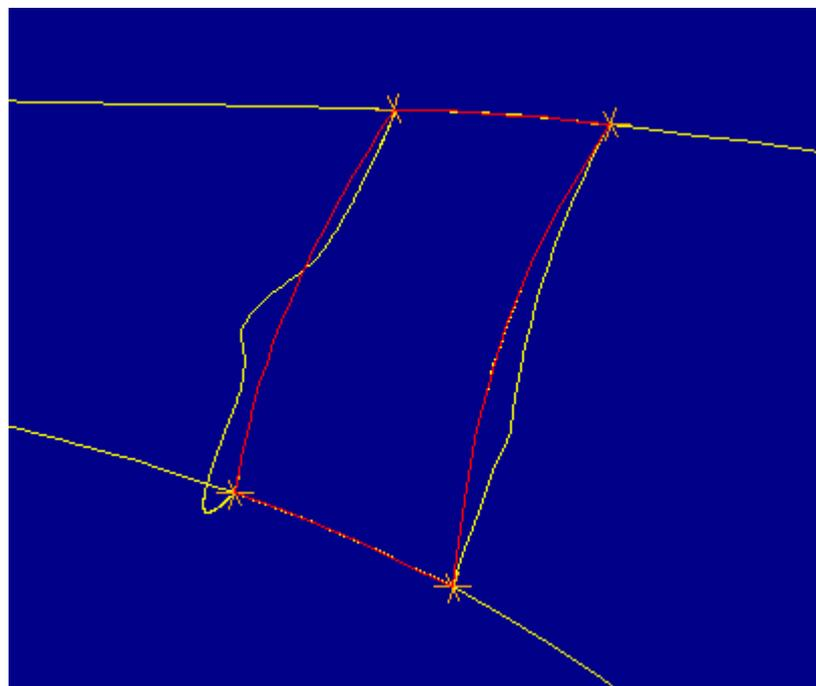
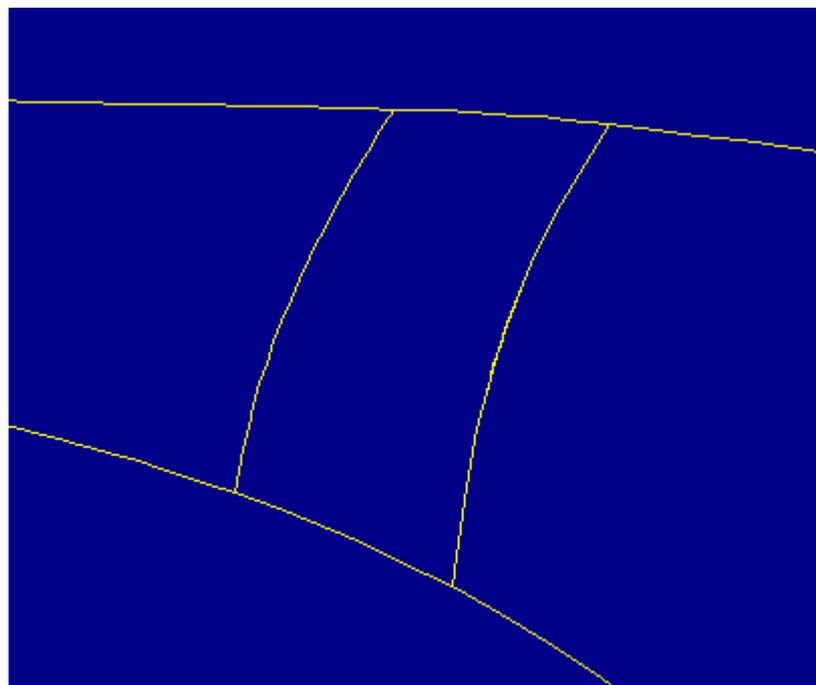
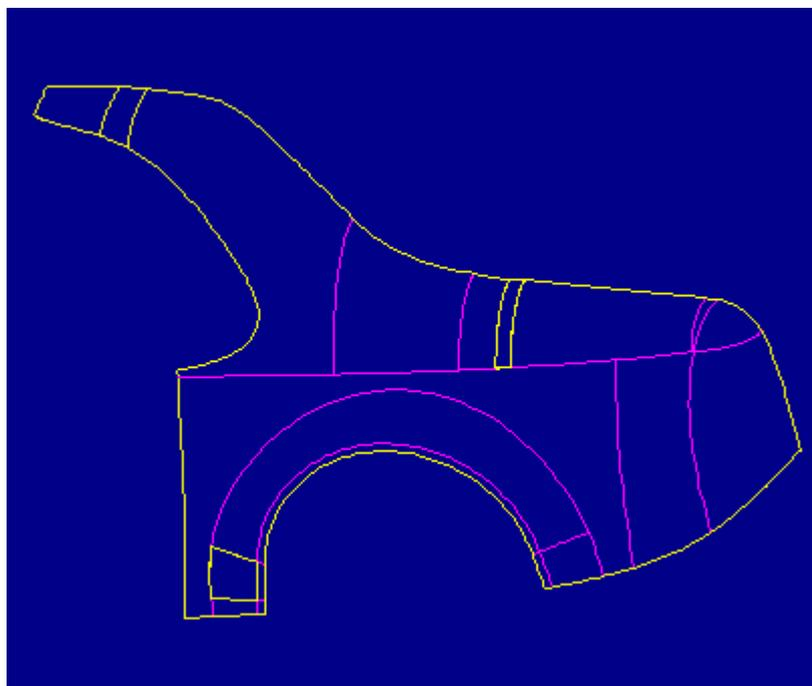

Figure 38
Figure 39
Figure 40
25. Figure 38 shows the replacement contour highlighted in red upon selecting **Preview**. Figure 39 shows the replacement of the original contour upon selecting **Done**. Notice how the edges have been aligned so the surface fits properly into the quilt. Figure 40 shows the current status of the import feature. Also note that the three surfaces that have been edited are not yet joined into the quilt.